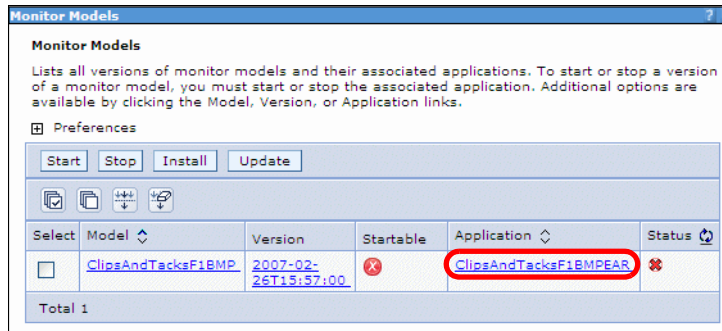

Figure 14-50 Monitor model undeployment: Application name
- ▶ Back in the monitor models section of the monitor server administrative console, take a note of the application name associated with the model (Figure 14-50).